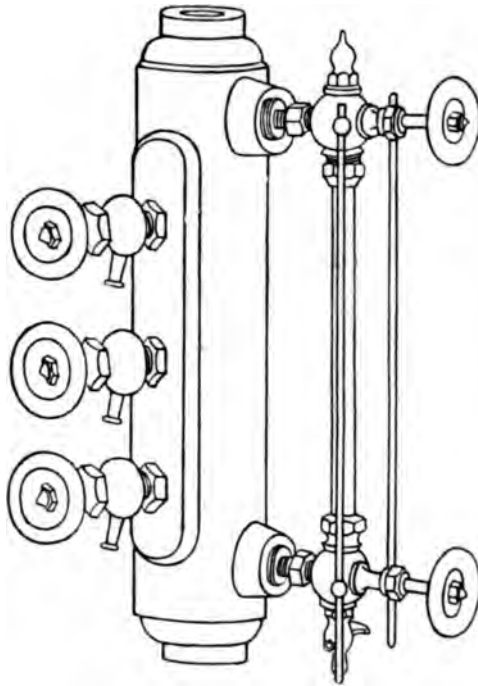

Fig. 9.—Water Column and Gauge.
A. The water column (Fig. 9) is a hollow cylindrical casting having a water glass extending nearly its entire length. It is also tapped for and provided with two or three try-cocks. It is located at the side of the boiler at such a height that the glass